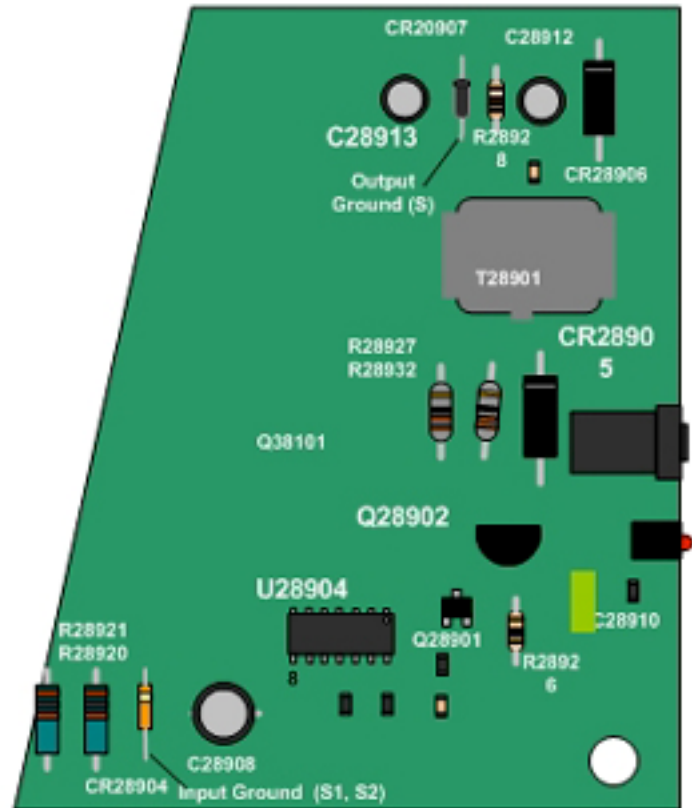

Figure 4. New version Chipper Check circuit board showing power supply component location.
Figure 4 shows the location of the power supply components on the new version circuit boards. Input ground (S1) and output ground (S) locations are identified.